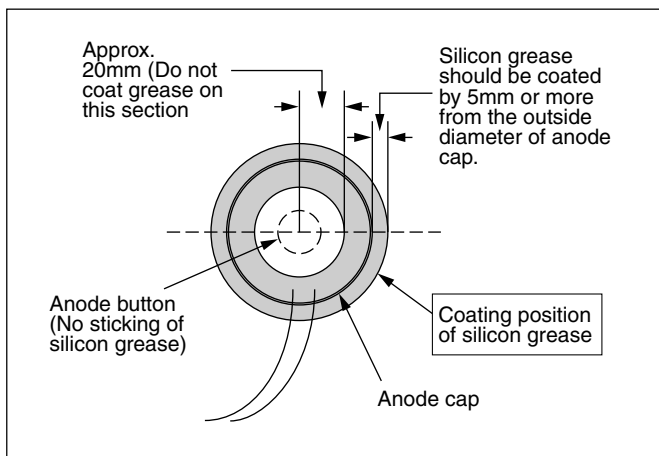

Fig. 6
- Coat silicon grease on the section around the anode button. At this time, take care so that any silicon greases dose not sticks to the anode button. (Fig. 6)